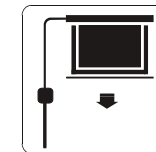

Figure 22
2. Turn the switch to position "—" to lower the screen; it will come down slowly. When it is all the way down, it will stop automatically (Figure 22).